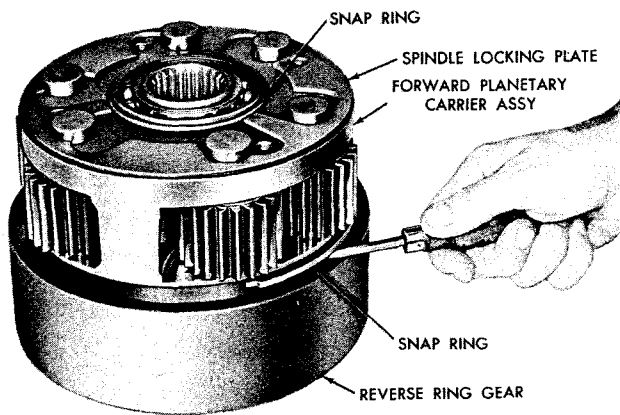

Fig. 5-30. Removing reverse ring gear snapring
(1) Remove the snapping that retains the reverse ring gear to the forward planetary carrier, and remove the reverse ring gear (fig. 5-30).